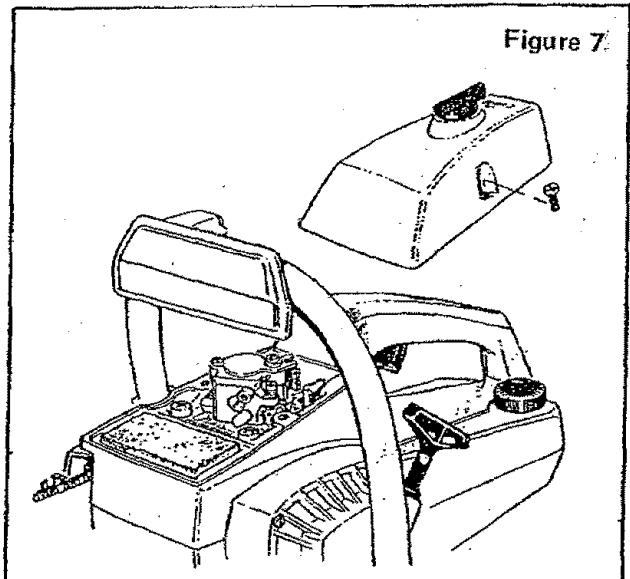
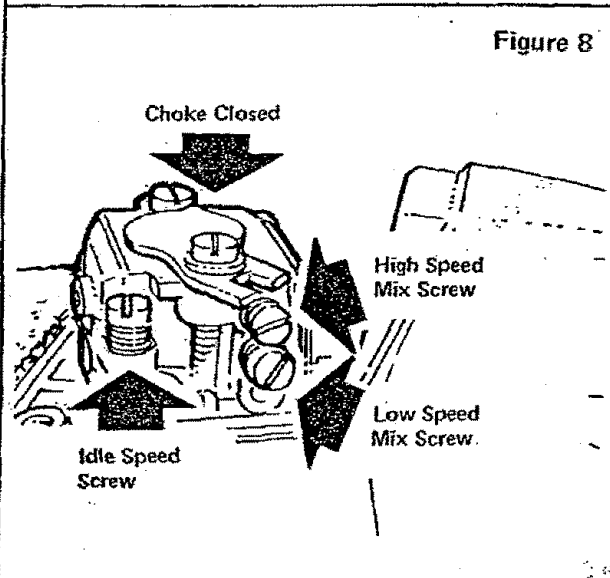

Figure 7
Figure 8
2. Remove the carburetor cover (Figure 7). Turn the high speed (Figure 8) and low speed mixture screws clockwise (Figure 8) until they stop. Don't tighten them, you may damage the needle seats!
3. Turn the high speed and low speed mixture screws one full turn counterclockwise (Figure 8).
4. Start the engine. If it stops, increase the idle speed (Figure 8) by turning the idle speed screw clockwise (Figure 8). Keep dirt and sawdust away from the carburetor while the cover is removed.
6. Set the idle speed as fast as possible without the chain moving. Turn the idle speed screw clockwise (Figure 8) for faster idle, counterclockwise (Figure 8) for slower idle.
7. Squeeze the trigger quickly. If the engine stops, restart it. The engine should accelerate without hesitating when the trigger is squeezed. If it does not, turn the low speed mixture screw counterclockwise (Figure 8) 1/16 of a turn and check the acceleration again. If the idle speed slows while adjusting the low speed mixture, reset the idle speed as in step 6. Continue step 7 until acceleration is smooth.
9. If the engine seems to smoke excessively in the cut, turn the high speed mixture screw clockwise (Figure 8) 1/16 of a turn. Repeat step 8 and 9, if necessary. **WARNING:** The high speed needle must never be less than 7/8 turn open. Too lean of a setting will quickly ruin the engine.
10. If the engine seems to weaken or lose power in the cut, turn the high speed mixture screw counterclockwise (Figure 8) 1/16 of a turn at a time until the saw cuts smoothly. The high speed mixture screw should not be open more than 1 1/4 turns (counterclockwise (Figure 8)) from the stopped position in step 2.
2. Move the choke shutter to the choke closed position (See Figure 8).